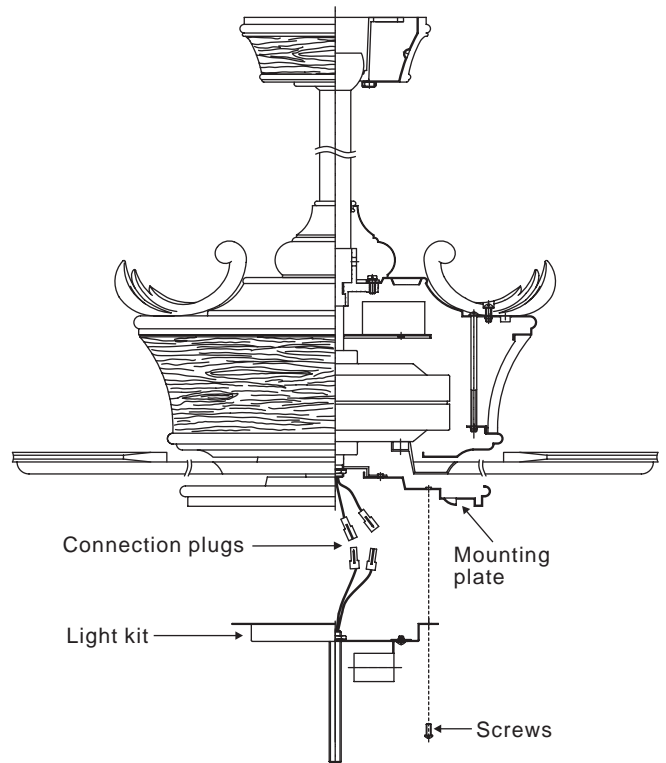

Figure 16
1. Raise and hold the light kit close to the mounting plate and proceed to do the wire connections. Connect the white wire connectors from the light kit and fan, follow the same procedure with the black wire connectors. (Fig. 16)
2. Carefully push all wires back into the mounting plate, then install the light kit onto the mounting plate with 3 screws provided. Be sure to tighten all screws. (Fig. 16)